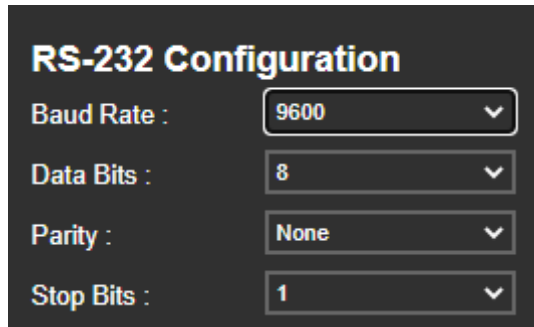

Figure 31: RS-232 Device Configuration Parameters
3. Set RS-232 Configuration parameters to enable communication with the display that is connected to the acceptor (or any other device with an RS-232 port), see Figure 31.